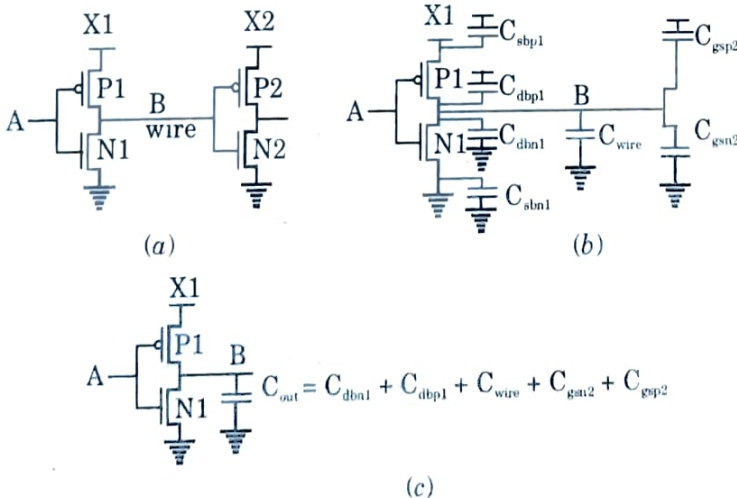

Fig. 2.8.1. Capacitances for inverter delay calculations
- Fig. 2.8.1(a) shows an inverter X_1 driving another inverter X_2 at the end of a wire.
- These capacitances are shown in Fig. 2.8.1(b). Fig. 2.8.1(c) shows the equivalent circuit diagram in which all the capacitances are lumped into a single C_{out} .